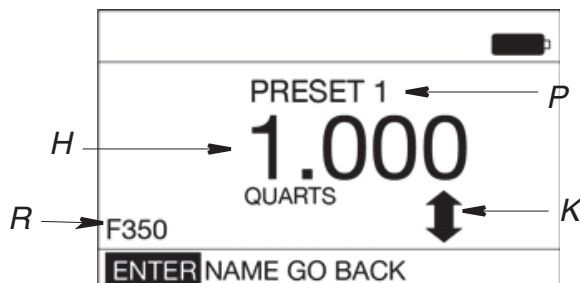

FIG. 46
2. The screen shown in FIG. 46 displays.
- P PRESET TITLE** - Identifies which preset option is being set up. The example in FIG. 46 shows PRESET1. This means you are setting up the PRESET parameters for PRESET1 in the list.
- R NAME** - Additional information about the PRESET, such as the type of engine or vehicle make/model, fluid type, etc. The example shown in FIG. 46 shows F350 in the NAME field on the display for PRESET1.
Be sure ENTER in the lower left corner of the display screen is highlighted (FIG. 46).
1. Use the UP AND DOWN ARROW on the keypad to increase or decrease the PRESET AMOUNT (H) (FIG. 46).
1. Use the RIGHT ARROW on the keypad to highlight NAME (FIG. 46). Press the center ENTER button on the keypad to select NAME.